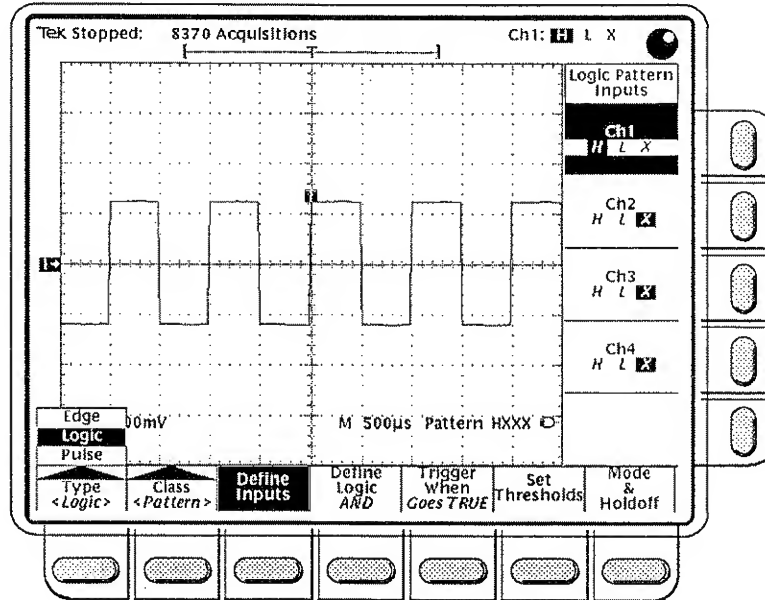

Figure 3-24: Setting Logic Pattern Inputs
**Define Inputs** – Press the main menu **Define Inputs** button to bring up a side menu that lets you set the logic state to be considered TRUE for each of the input channels (**Ch1, Ch2 ...**). The available selections for each channel are: High (**H**), Low (**L**), and Don't Care (**X**). The Logic Pattern Inputs menu is shown in Figure 3-24.